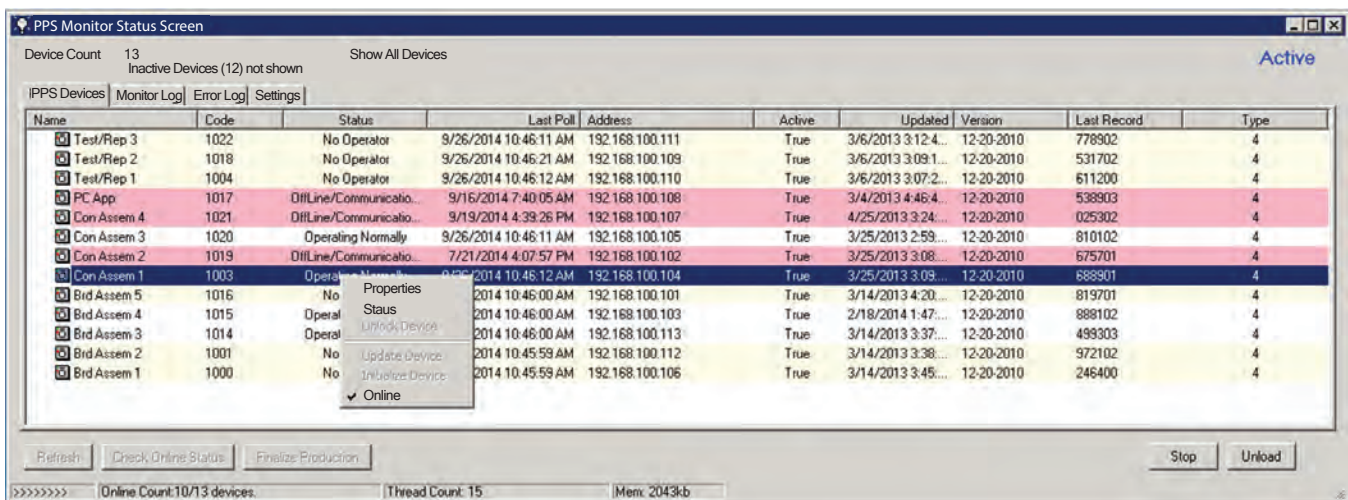

Figure 72. PPS Monitor Status Screen: Settings.
3. Select **Properties** from the fly-out window (see Figure 72) to open the *PPS Device* dialog window.